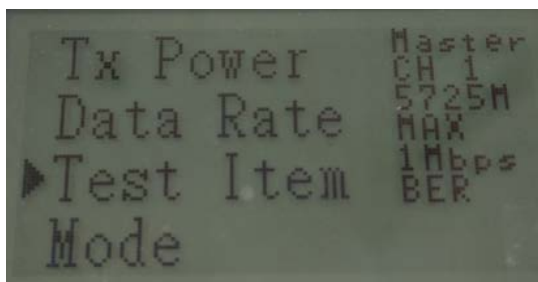

Fig 9
- 1、 Press '↓' or '↑' button to move indicator to 'Test Item' as shown in Fig 9.